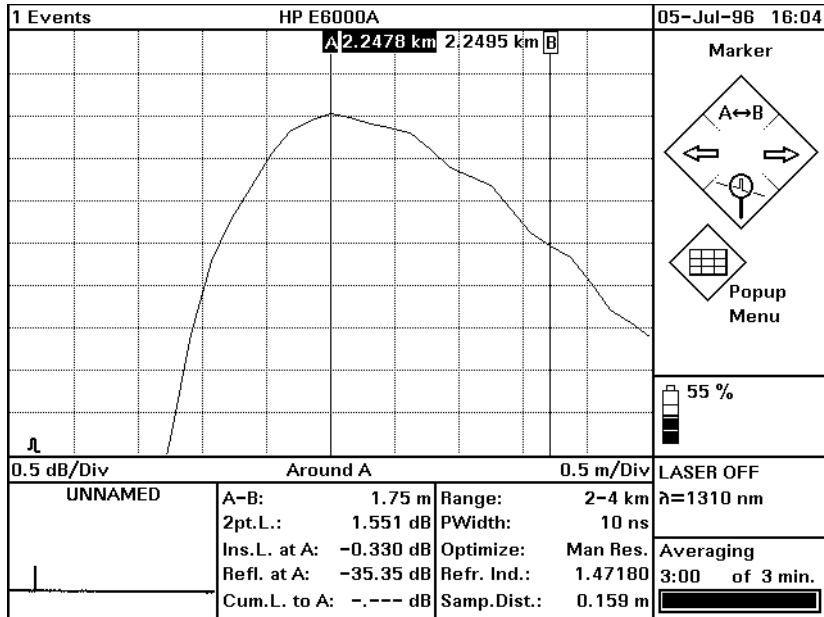

Figure D-6 Event Deadzone Test: Position Marker B
- 17** Use the LEFT/RIGHT keys to position marker B where the down slope of the reflection crosses the horizontal center line of the graph. See Figure D-6.